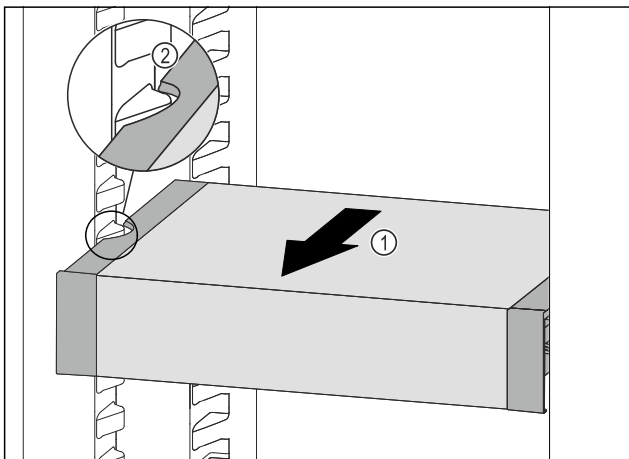

Fig. 103
- ▶ Pull VarioSafe forwards Fig. 103 (1) until the recesses in the side of the VarioSafe are at the level of the support rib in the fridge section. Fig. 103 (2)